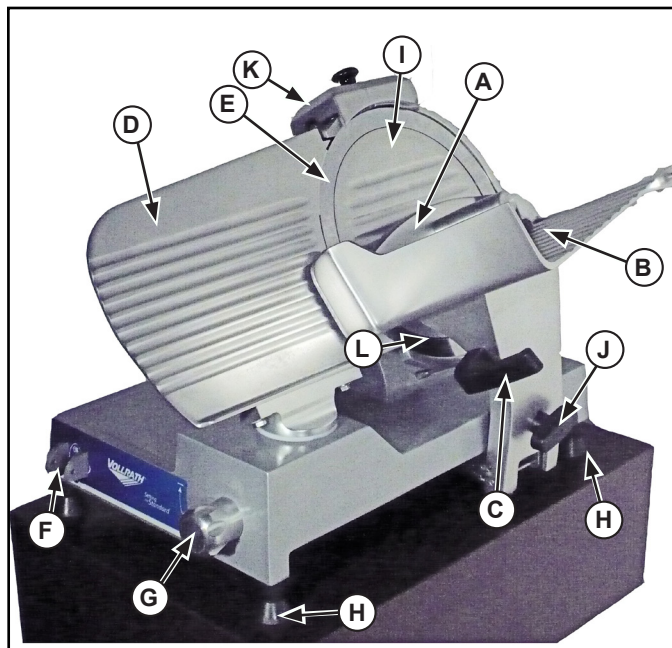
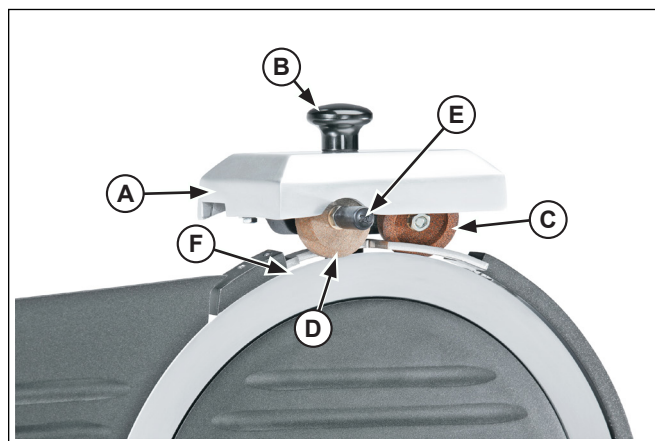

Figure 1. Features and Controls
Figure 7. Knife Sharpening Assembly and Knife, in Sharpen Position
1. Slide the carriage tray (B) to the load/start position (closest to the operator). See Figure 1.
2. Lift the food product grip (A) and place the food product to be sliced on the carriage tray (B) in contact with the gauge plate (D).
3. Place the product grip (A) either on top or behind product to be sliced.
4. Set the desired thickness of slice using the indexing control (G).
5. Switch the on/off power switch (F) to the "ON" position.
6. Using the carriage handle (C) push the carriage tray (B) back and forth to slice the food.
7. When finished slicing, turn the on/off power switch (F) to the "OFF" position.
8. Set the thickness to "0" using the indexing control (G).
19. Install the knife cover knob and secure the knife cover. See Figure 1.
1. Turn the on/off switch (F) to the “OFF” position. See Figure 1.
4. Turn the on/off switch (F) to the “ON” and resume operation.
1. Turn the on/off power switch (F) to the “OFF” position. See Figure 1.
2. Turn the index control (G) to the “0” position.
3. Clean the knife (E) following the *Cleaning and Sanitizing Section* of this manual.
4. Use the knob (B) to lift the sharpener head (A) and rotate it 180° to the sharpen position. See Figure 7.
5. Push the knife sharpening assembly (A) down firmly so that the angled wheel (C) is pressed against the knife (E).
6. Turn the on/off power switch (F) to the “ON” position for 30 seconds. See Figure 1.
7. At the end of the 30 second sharpening cycle, and push the de-burring stone button (E) to gently push the stone (D) against the knife (F), for approximately 2 seconds. See Figure 7.
8. Turn the on/off power switch (F) to the “OFF” position. See Figure 1.